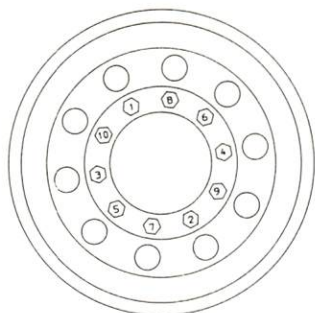

Figure 8-2. Lug Nut Tightening Pattern
12. Install spare and replace lug nuts. Tighten progressively in the sequence shown in figure 8-2 starting with # 1 and proceeding to # 10. Final torque will be 450 to 500 foot-pounds.
3. Remove outer lug nuts from the (5) studs which have lock rings and slide hub cover over remaining lug nuts.
4. Remove the (5) remaining lug nuts and wheel.
6. Install replacement wheel and inner lug nuts. Tighten progressively in the sequence shown in figure 8-2 starting with # 1 and proceeding to # 10. Final torque should be between 450 and 500 foot pounds.